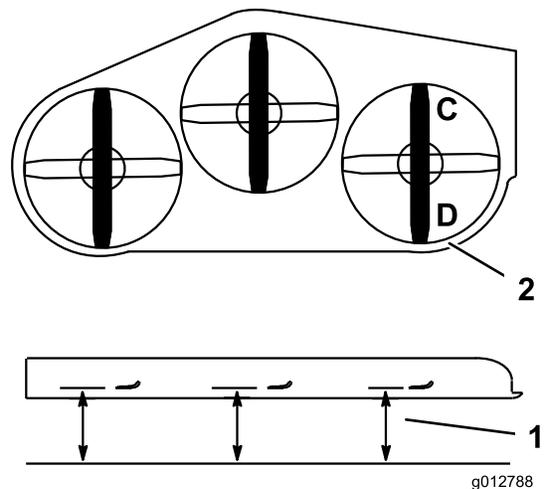

Figure 85
1. Position the right blade front-to-rear (Figure 85).
2. Measure the right blade at the **C** location, from a level surface to the cutting edge of the blade tip and record this measurement (Figure 85).
3. Measure the right blade at the **D** location, from a level surface to the cutting edge of the blade tip and record this measurement (Figure 85).
4. The mower blade should be a 1/4 to 3/8 inch (6 to 10 mm) lower at position **C** than at position **D** (Figure 85). If it is not correct, proceed to the following steps.